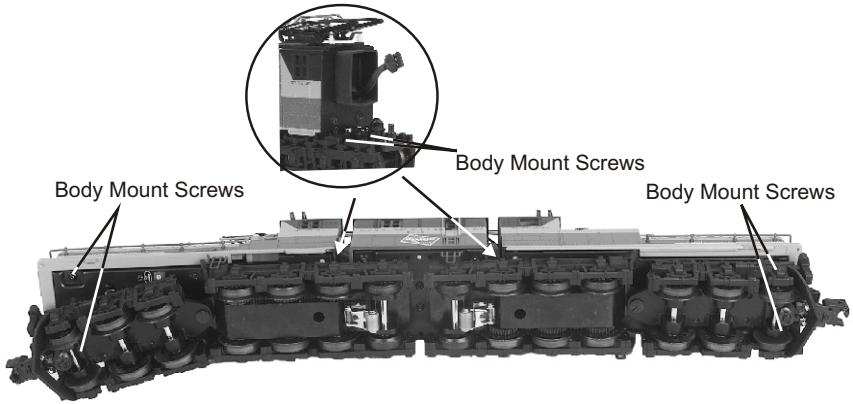

Figure 3. Location of Body Mount Screws and Greasing Points on the Locomotive
2. Once the cab is removed, remove the screws that hold the motor mounting plates to the chassis. You will need a long, skinny screw driver to reach the screws. There are 2 sets of screws on each motor (see figure 3 on pg. 11)